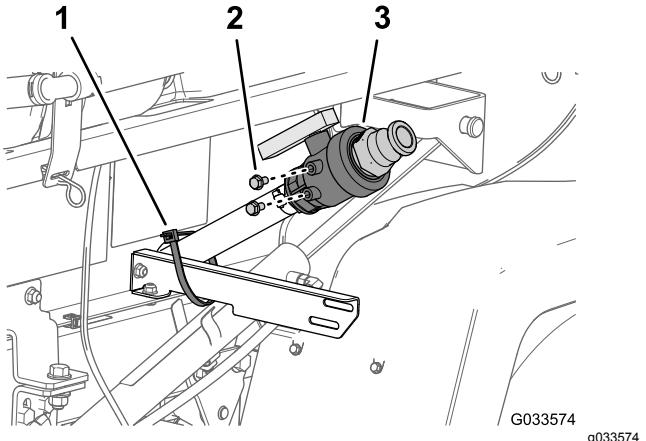

Figure 13
1. Remove the cable tie that secures the drain valve and hose for the sprayer tank to the drain-valve bracket (Figure 13).
2. Remove the 2 flange-head bolt (5/16 x 5/8 inch) from the case of the drain valve (Figure 13).